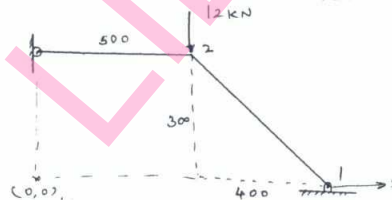

Fig. Q6(b)
b. For the two – bar truss shown in Fig. Q6(b) determine the nodal displacement. Take $E = 200 \text{ GPa}$; $A_1 = A_2 = 200 \text{ mm}^2$. (12 Marks)